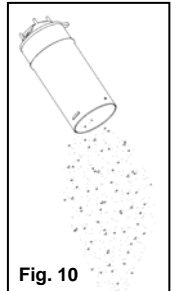

Fig. 10
3. Hold it over a garbage can and empty the dust. (Fig. 10)